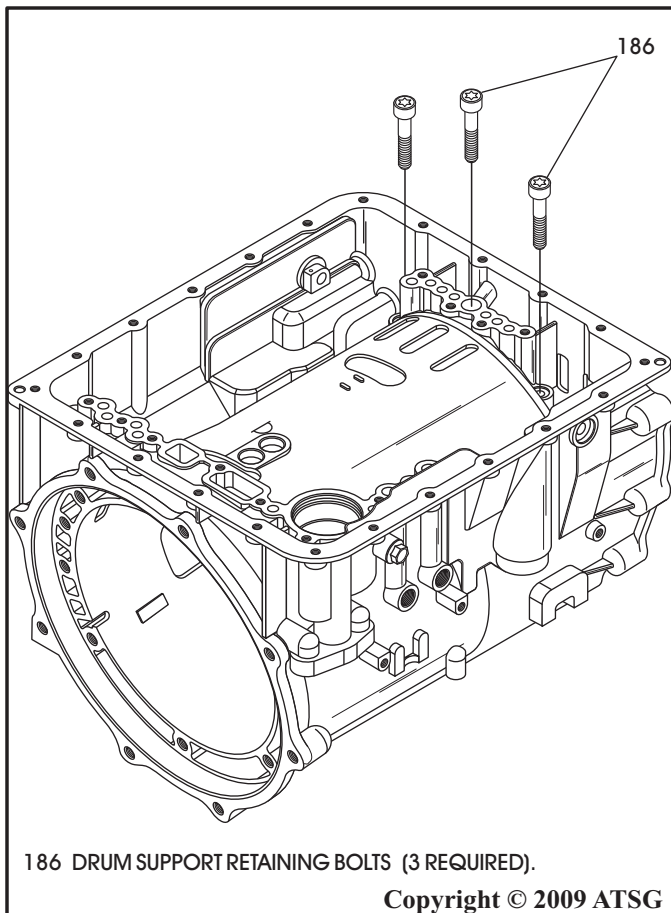

Figure 61
60. Remove the three drum support retaining bolts from the valve body side of case, as shown in Figure 61, using a 45 "Torx" head socket.